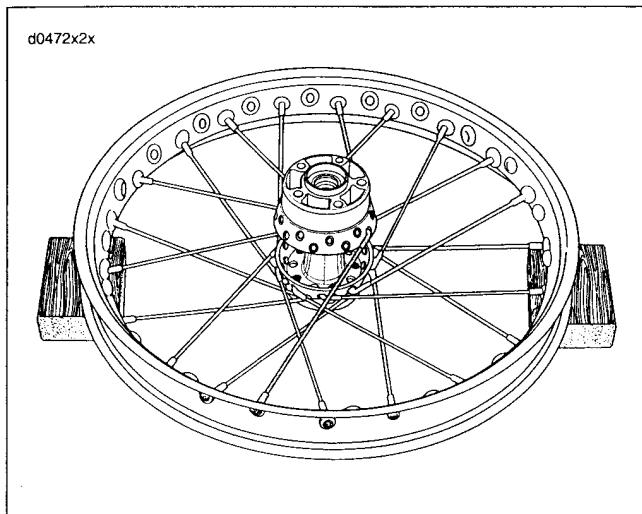

Figure 2-47.
7. See Figure 2-47. Turn rim over, brake disc side up. Place any **lower** row spoke into hub. Angle spoke clockwise and place into rim hole angled to accept it.